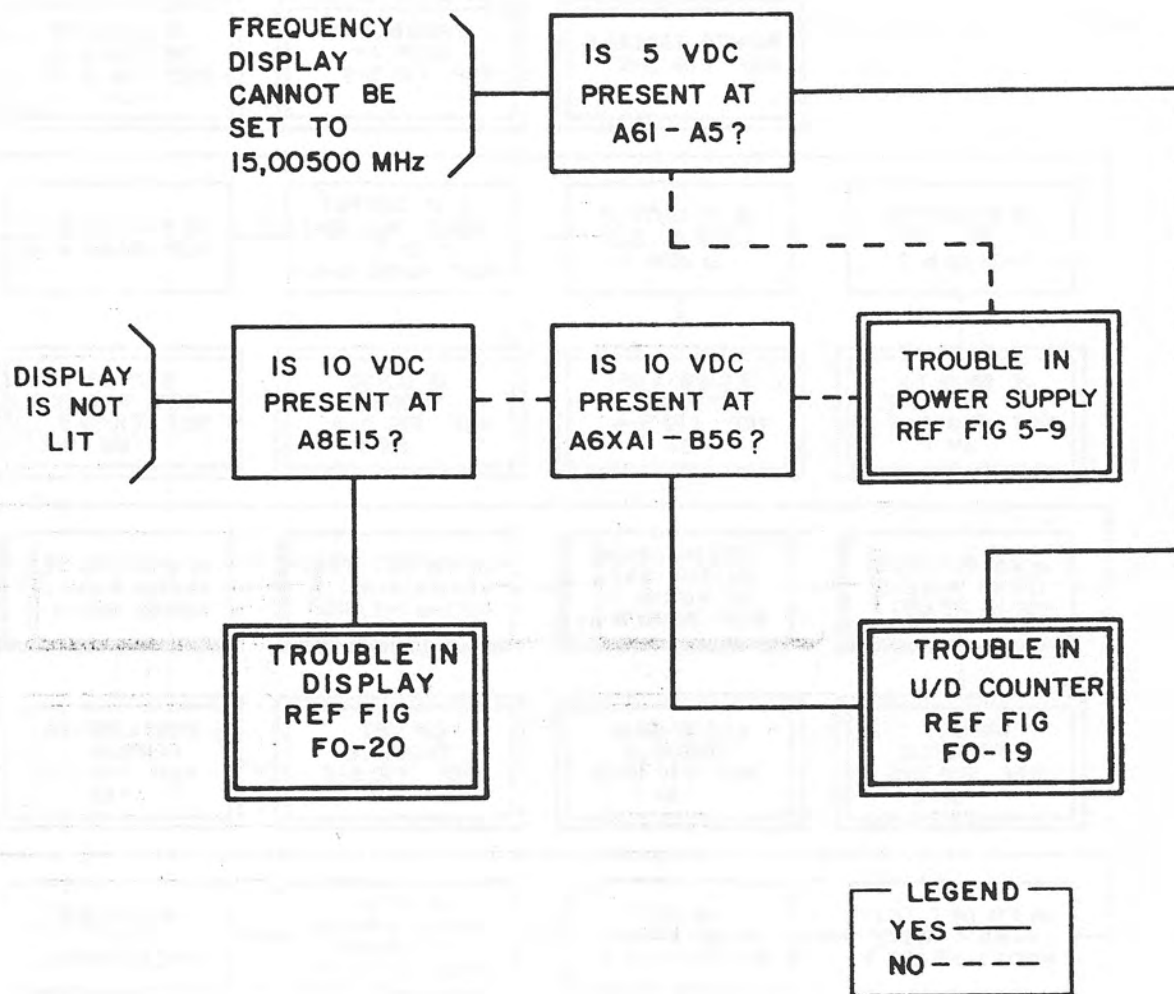

Figure 5-2. Frequency Display Fault Logic Diagram
- (3) Troubleshoot functional area to isolate fault to the power supply or a module (figure 5-2 through 5-8).
- (4) Troubleshoot power supply or module to isolate fault to component (paragraph 5-6d).
- (5) Perform necessary repair and adjustment/alignment in accordance with procedures of chapter 6.
c. Troubleshooting to Power Supply or Module. Figure 5-2 through 5-8 are fault logic diagrams which contain procedures for isolating malfunctions to the power supply or a module. When a fault is isolated to the power supply or module, these diagrams indicate the next procedures to follow to further isolate the fault to the component level. Refer to table 5-1 for location of the pertinent functional descriptions. In addition, the items listed below are provided as aids in fault isolation.